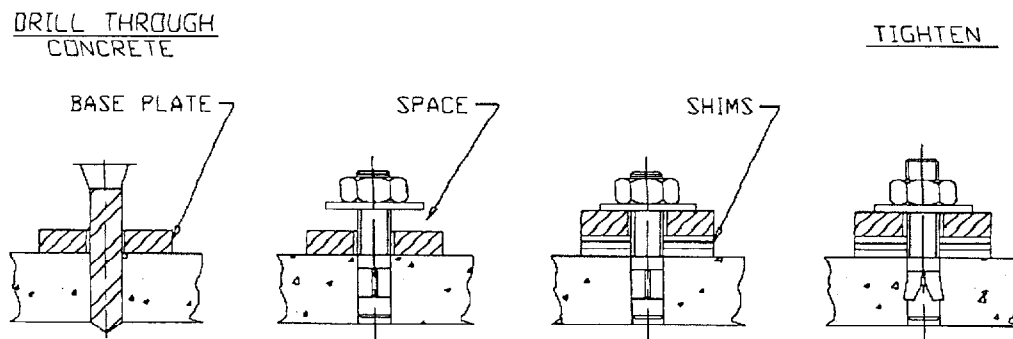

Figure 8 - Anchor Installation
5. After proper levels are attained for both the raised and lowered positions, use a rotary hammer drill and a 1/2" concrete drill bit to drill through the floor in the four (4) anchor bolt location holes on each of the base frames. Make sure that the 1/2" concrete drill is in good condition. Refer to Figure 8.